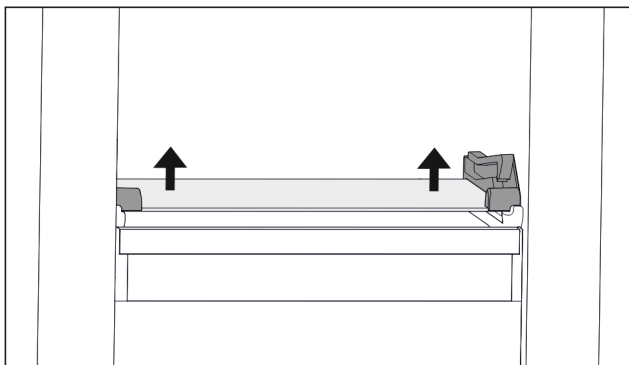

Fig. 131 Tilting drawer glass shelf
- ▶ Press the glass shelf upwards from below on both sides. (see Fig. 131)